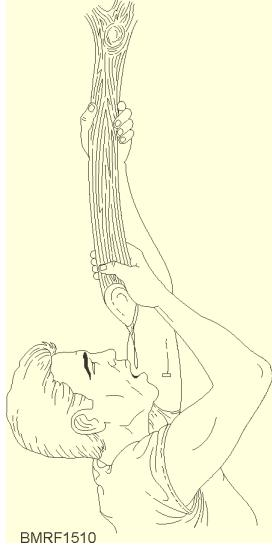

Figure 15-10.—Extracting water from vines.
4. Repeat this procedure until the supply of fluid is exhausted (fig. 15-10).